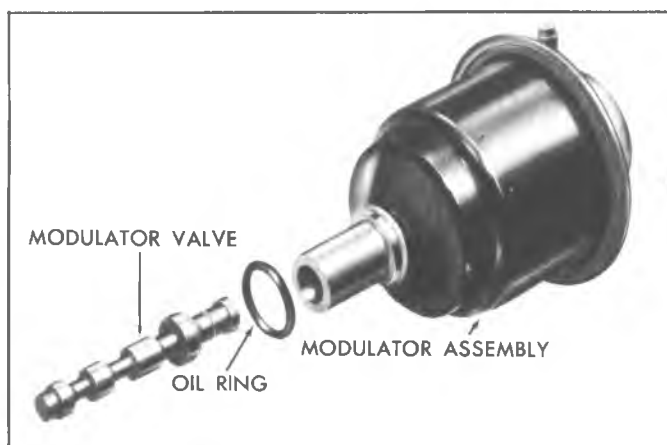

Fig. 7A-134C—Modulator Assembly and Valve
- b. Apply non-hardening sealer to outside of new oil seal, and install oil seal into case extension using tool (J-24057) (see Fig. 7A-171C).